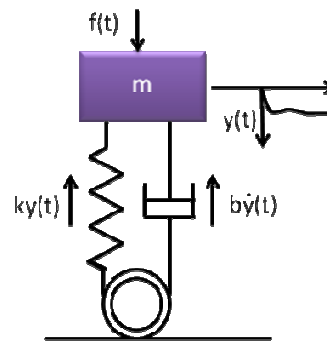

Fig. 1
1. This paper contains **SIX (06)** questions on **FOUR (04)** pages.
5. Answer **ANY FIVE (05)** questions
- 1 a A motor cycle shock-absorber is shown in Fig. 1 [6]